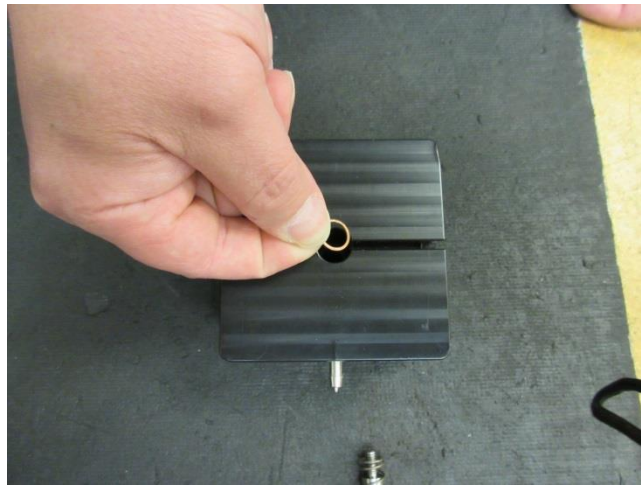

Figure 8: Placing the first brass washer
- Place the first brass washer in the bottom of the center hole in the nest. (Figure 8)